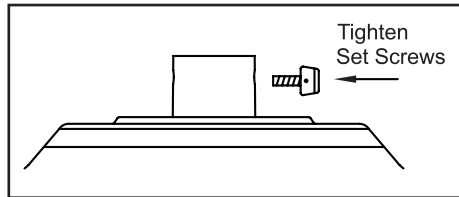

Figure 8
- Re-tighten the set screws on the collar on top of the motor housing (Figure 8).